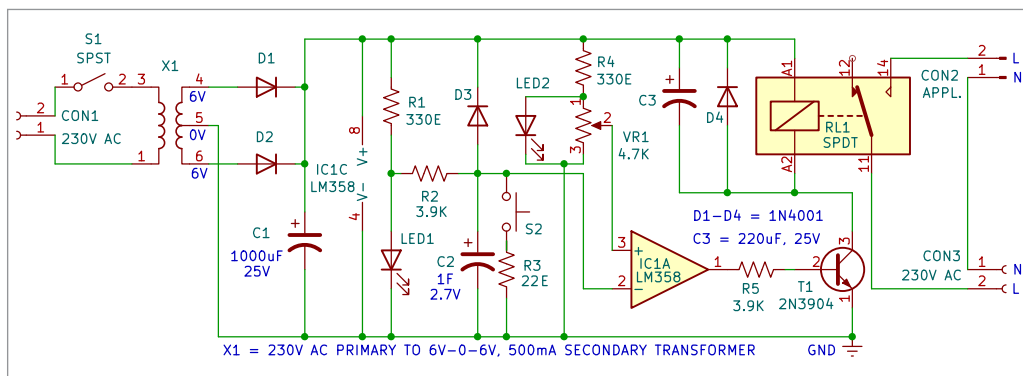

Fig. 2: Circuit diagram
Fig. 2 shows the circuit diagram of a long-duration timer using a supercapacitor. The circuit comprises a centre-tapped transformer (X1), four rectifier diodes (1N4001, D1-D4), a dual op-amp (LM358, IC1), a transistor (2N3904, T1), a 5V SPDT relay (RL1), two LEDs (LED1, LED2), and additional components.
In the circuit shown in Fig. 2, a 1F supercapacitor (C2) charging through a 3.9-kilo-ohm resistor (R2) produces a delay (RC) of 65 minutes. The maximum voltage rating of supercapacitor C2 is 2.7V. LED1 ensures the voltage across C2 does not exceed this limit and that the capacitor charges from a voltage source independent